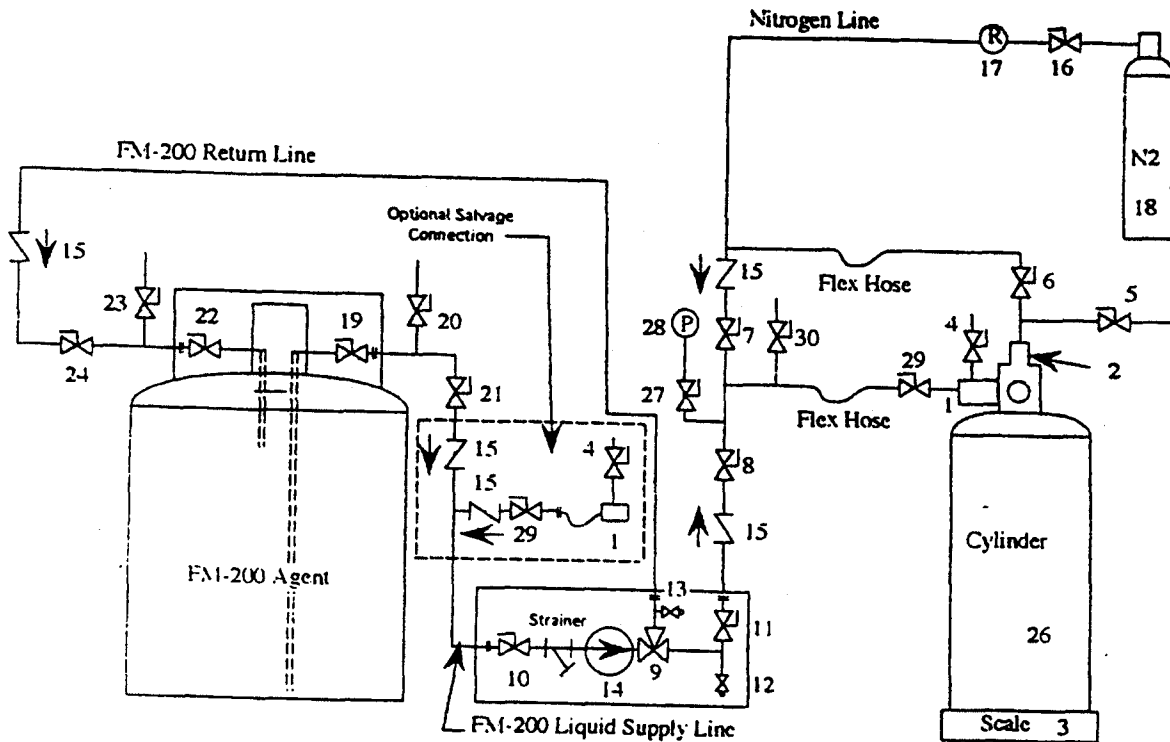

Figure 6.9.1 - Typical FM-200 Charging System Schematic
FM-200 charging equipment consists of an FM-200 storage container, piping adapter, control valves, strainer, pressure gauge, flexible hoses, seating adapter, recharge adapter, pump, regulated nitrogen supply, scale and interconnecting plumbing. Recharge equipment must be suitable for the purpose intended and must be compatible with FM-200. A typical FM-200 charging system schematic is shown in Figure 6.9.1.
6.9.2 Charging FM-200 Cylinder and Valve Assembly. Recharge FM-200 cylinder and valve assembly as follows (see Figure 6.9.1):
6.9.4 Salvaging FM-200 from Leaking Cylinder Assembly (See Figure 6.9.1).